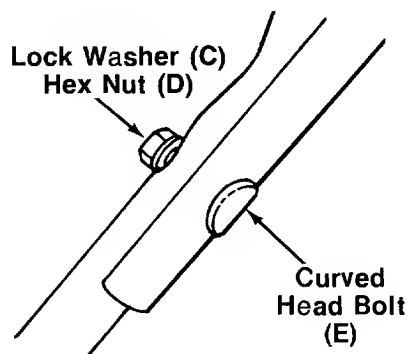

FIGURE 3.
4. Place the upper handle in position over the lower handle. The control housing must be on the left hand side of the handle. Secure the left hand side of upper handle using the curved head bolt (E), lock washer (C) and hex nut (D) as shown in figure 3.